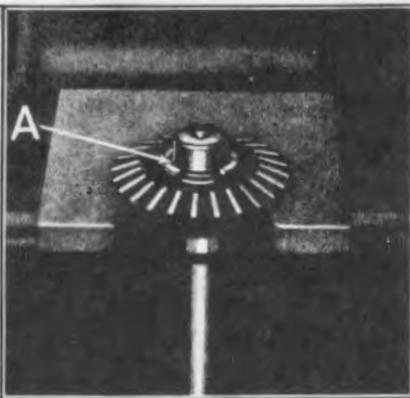

Fig. 330
**574** If new axle shafts are to be installed the differential gears can be removed from the old shaft by positioning the gear into a gear support in arbor press and forcing the shaft down until the gear clears the lock ring. The shaft is then reversed and lock rings (See "A" Fig. 330) lifted out of recess in end of shaft, and the shaft pressed through gear.